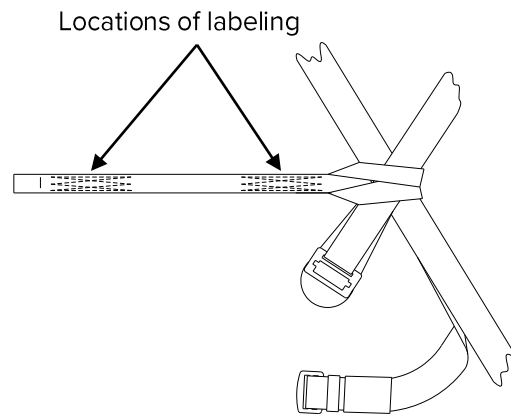

Fig. 2
- ◆ Hitch the rappelling loops to the harness as shown in Fig. 2.